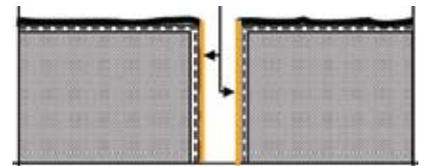

Fig. 5
5. Apply a skim coat of Sto base coat to the prepared joint surfaces to create a smooth surface free of ridges such that it completely hides the reinforcing mesh color (Fig. 5).